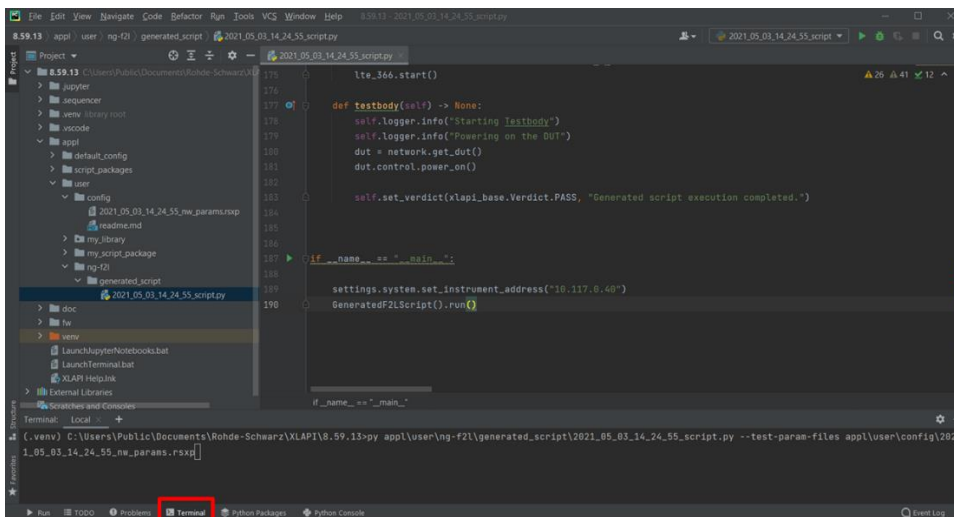

Fig. 2-20 Launch Python terminal in PyCharm
- either in PyCharm (see Fig. 2-20)